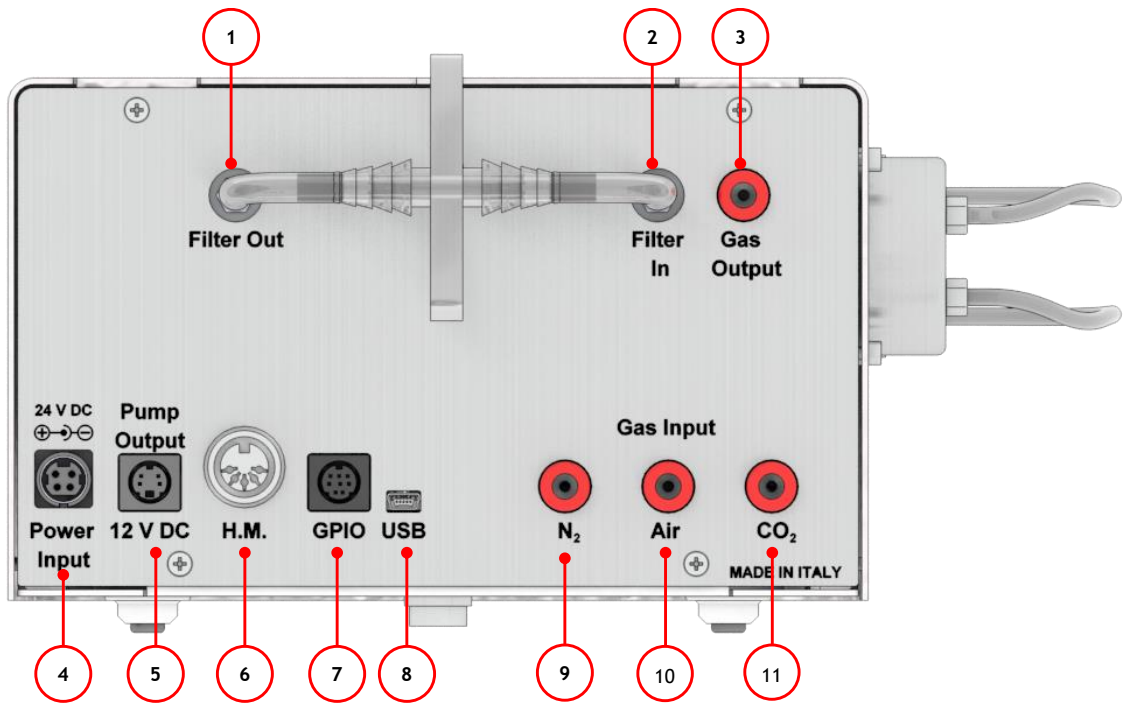
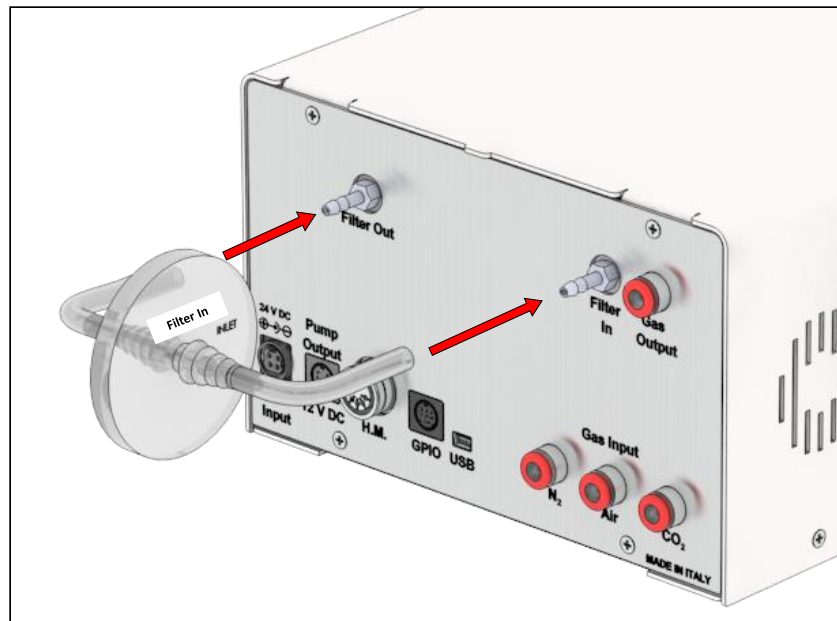

Figure 5. Gas Controller Rear Panel Overview.
Figure 10. How to install TUBE-CB.
Figure 5 illustrates CO2-O2-UNIT-BL [0-10; 0-1] rear panel:
2. Install the **TUBE-CB** on the rear panel of CO2-O2-UNIT-BL [0-10; 0-1]. It filters the mixed gas before it enters in contact with CO2-O2-UNIT-BL [0-10; 0-1] gas sensors. Connect the TUBE-CB with the *Filter In* and *Filter Out* connectors on the rear panel of CO2-O2-UNIT-BL [0-10; 0-1] (1, 2 in Figure 5 and Figure 10). Make sure the *Filter In* label side of the filter is always connected to *Filter In* connector on the rear panel of CO2-O2-UNIT-BL [0-10; 0-1].